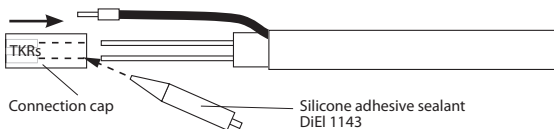

Figure 5
5.1.5. Fill the connection cap by the adhesive sealant and slide it onto the buswires and the insulated matrix of the heating tape up to the braid (see Figure 5).